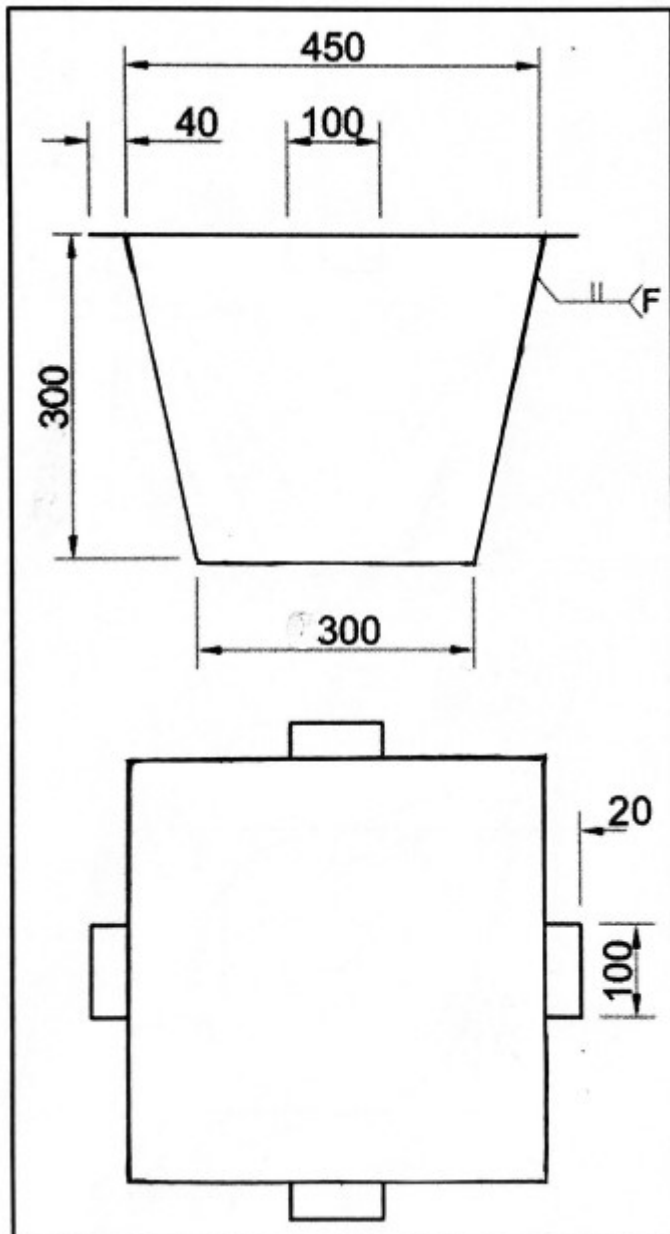

FIGURE 5 – BRAAI SHELL
- Cut material to size as indicate in Figure 5 and 6